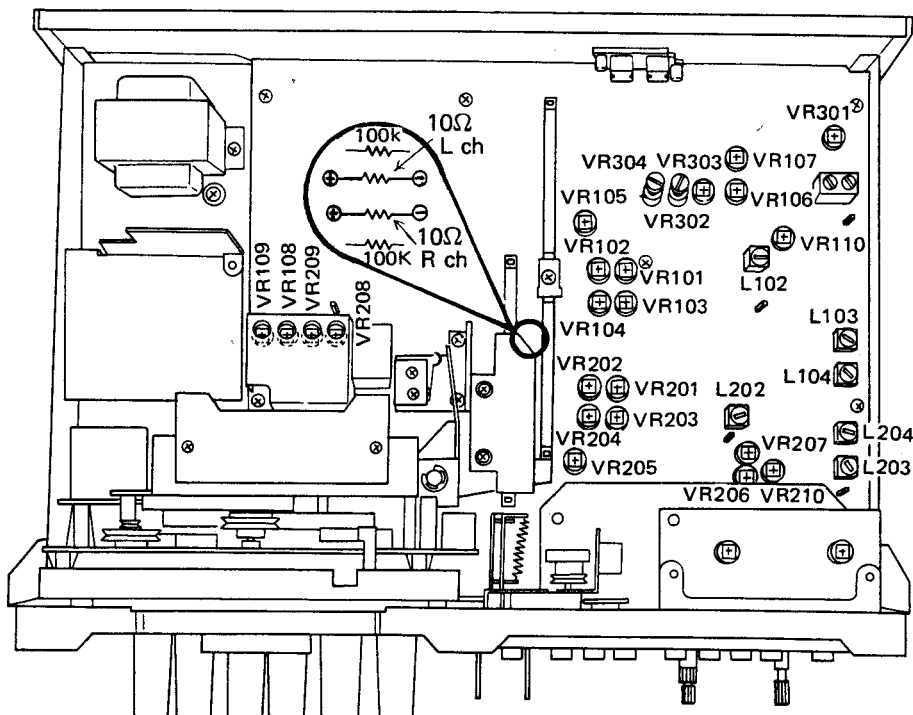

Fig. 8-3 Adjustment points
1. Connect a mV meter to both ends of 10ohm resistor as shown in Figure 8-3.
1. As was the procedure in 9.6, the section on recording current rough adjustment, connect a mV meter to both ends of 10ohm resistor as shown in Figure 8-3.